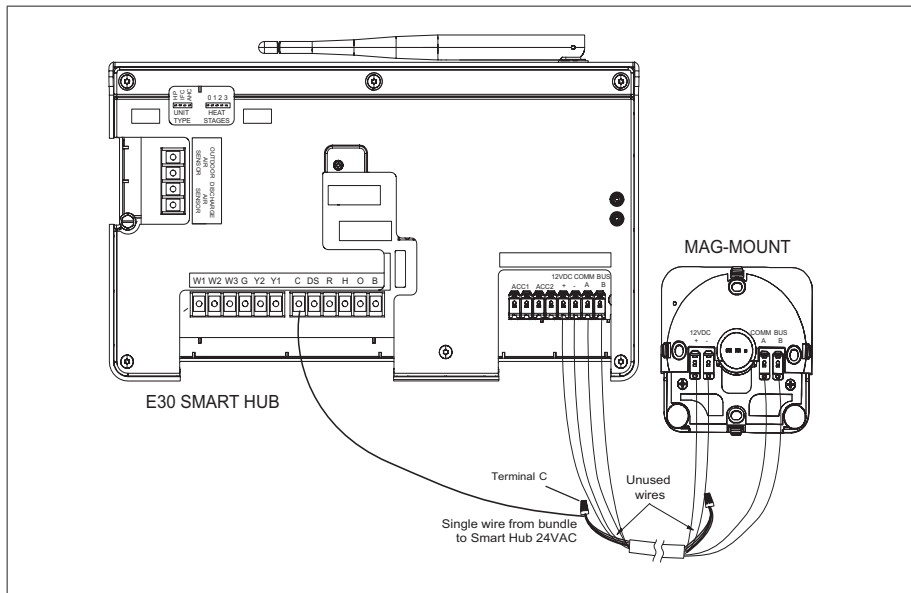

Figure 6. Thermostat Wiring - E30 Smart Hub to Mag-Mount (Electrical Noise Termination Consideration)
This system requires four thermostat wires between the Mag-Mount and Smart Hub - see "Figure 6. Thermostat Wiring - E30 Smart Hub to Mag-Mount (Electrical Noise Termination Consideration)".
- Use wire nuts to bundle the unused wires at each end of the cable. A single wire should then be connected to the indoor unit end of the wire bundle and attached to the "C" terminals as shown in "Figure 6. Thermostat Wiring - E30 Smart Hub to Mag-Mount (Electrical Noise Termination Consideration)".